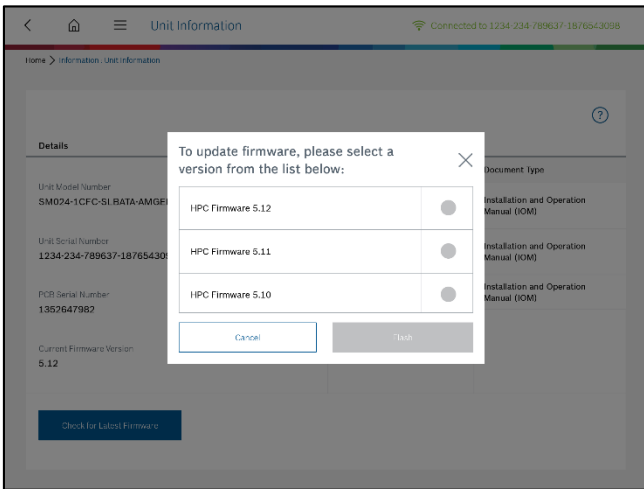

Figure 47: Flash Firmware
1. Tap the “Check for Latest Firmware” button, it will open a popup with three latest firmware versions. See Fig 47.